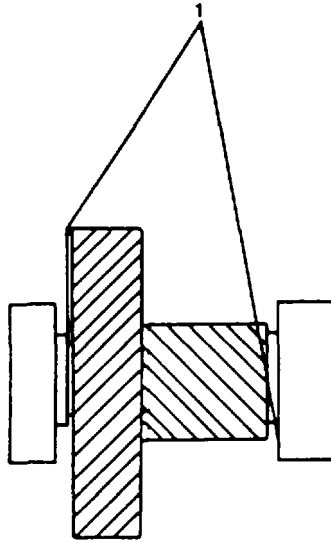

FIGURE 4-30. Lifting Points Intermediate Speed Gear Assembly.
(1) Remove low speed gear assembly, paragraph 4-13.
(2) For disassembly procedures of low speed gear assembly, refer to DISASSEMBLY task, step a.
d. Intermediate Speed Gear Assembly. (FIGURE 4-30)
(1) Attach lifting sling (1) to lifting points on intermediate speed gear assembly.